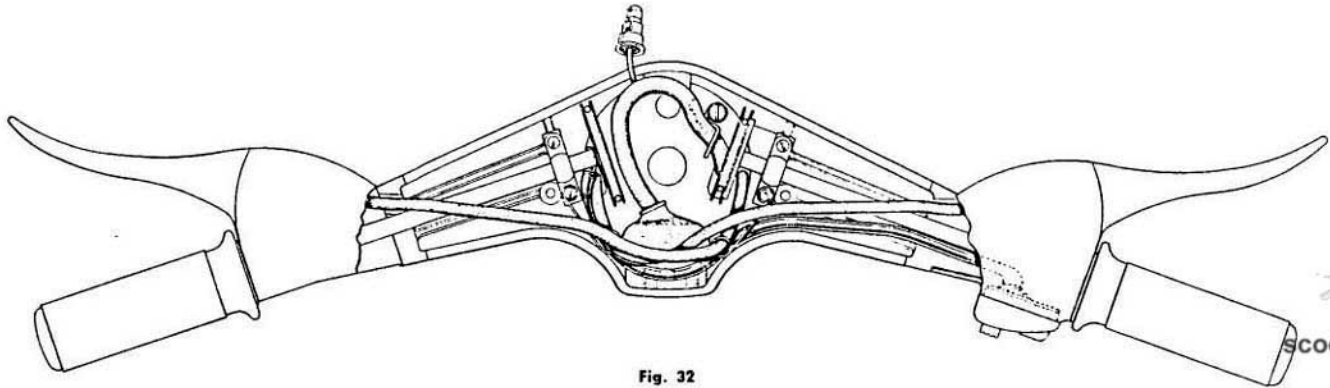

Fig. 32
**REASSEMBLY.** Carry out the above mentioned Operations inversely (Operation 52 to 41). Check with care the placing of the electric cables and control cables inside the handlebar so that they are placed exactly as shown in Fig. 32 to avoid chafing and narrow angled bends.